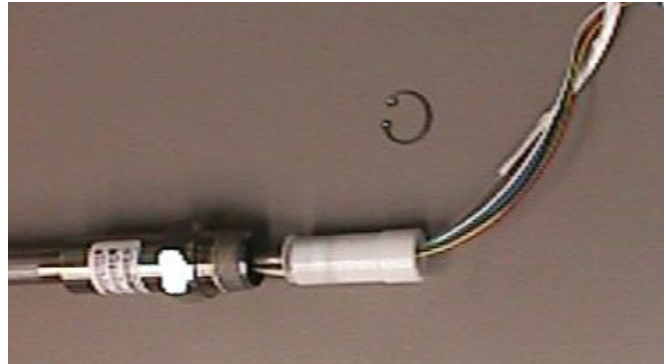

Figure 9. Removing the SE cable assembly
To avoid component damage, removing the SE with needle nose pliers is required. Please note that the SE can not be bent in less than a 2 foot radius (Figure 9).
4. Using needle nose pliers, gently pull the SE cable assembly out of the pipe. Remove the white base cartridge from the SE. To avoid damaging the SE, do not bend the SE in less than a 2 ft. radius (Figure 9).